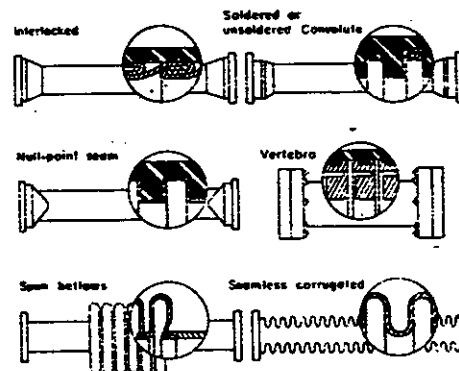

FIGURE 6.16. Flexible waveguide constructions.
**6.4.2 Flexible waveguide types.** Flexible waveguides may be classed as either resonant or nonresonant types. The nonresonant types are fabricated from spiral wraps (interlocked, soldered convolute, unsoldered convolute) or from thinwall tubing (seamless corrugated or nullpoint seam). The resonant types consist of the bellows or vertebra construction. The significant features of each of these constructions are indicated below and shown in the cutaway sections of figure 6.16 and in table 6.XXIII.